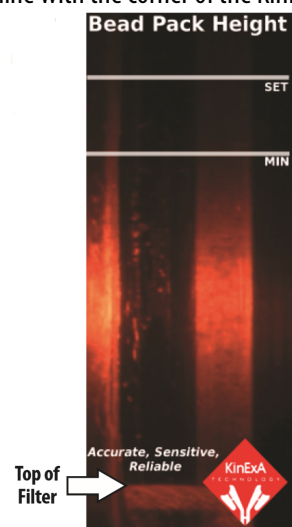

Figure 4: Camera image of a properly aligned Flow Cell.
- Look at the camera image and fine tune the alignment so that the top of the filter is in line with the corner of the KinExA Technology Logo (Figure 4).